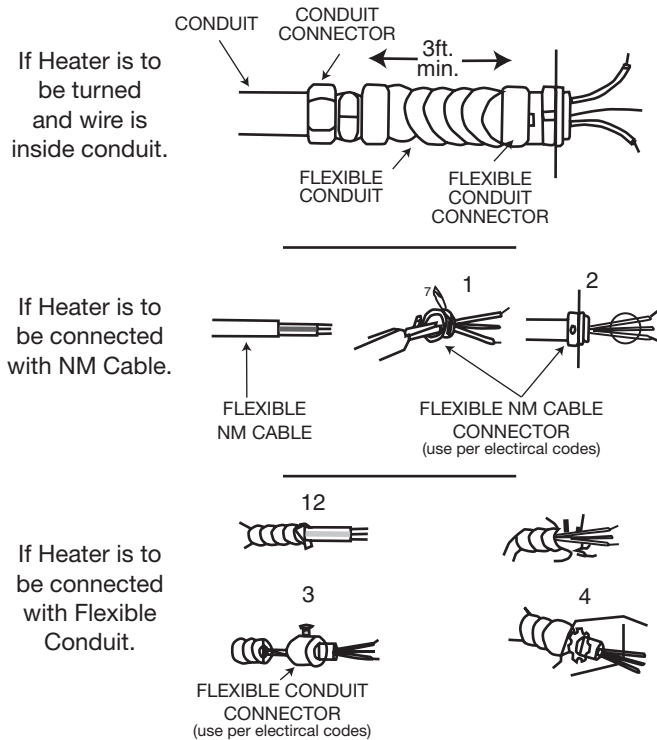

Figure 6
2. Attach flexible cable through a knock-out in the side of the heater following NEC and local codes, See **Figure 6** and **SPECIFICATIONS** for recommended wiring and circuit breakers.
NOTE: For certain applications, conduit may be required (See **Figure 6**). Check local electrical codes. If you run the wiring in conduit and wish to be able to turn the heater be sure to purchase enough flexible conduit to allow the heater to be turned.